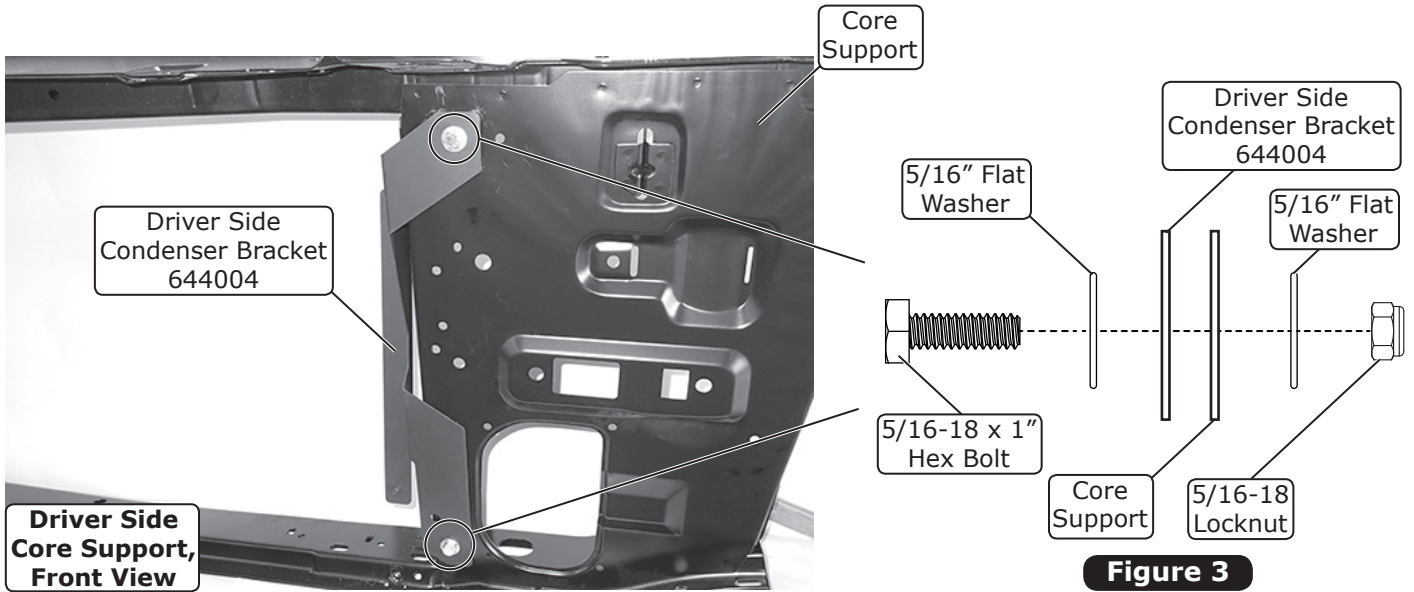

Figure 3
1. Loosely attach the driver side condenser bracket to the core support using (2) 5/16-18 x 1" hex bolts, (4) 5/16" flat washers and (2) 5/16-18 locknuts (See Photo 7 and Figure 3, below). **NOTE: Do not fully tighten until the #6 drier/core hardline has been installed (See Page 11).**